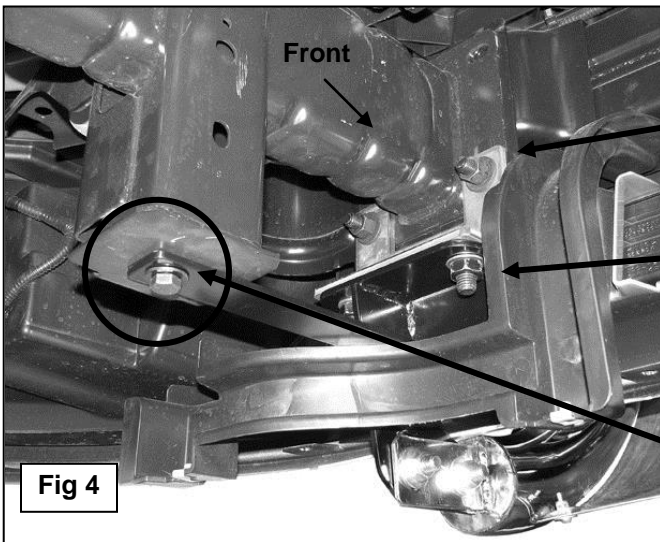

Fig 4
- Select (1) Upper Frame Bracket, (will fit left or right-without tow hooks only), and the driver side Mounting Bracket, **(Figure 3)**. Bolt the two Brackets together with (2) 12mm Flat Washers, (2) 12mm Lock Washers and (2) 12mm Hex Nuts, **(Figure 4)**. Do not tighten at this time.
- Insert the assembled Mounting Bracket up from behind the bumper and align the holes in the Mounting Bracket with the bumper bolts. Attach the Bracket to the bumper bolts using the factory hex nuts and snug but do not tighten the hardware, **(Figure 4)**.
- e. Attach the flat end of the driver side Bracket to the frame with (1) 12-1.5mm x 30mm **Special Fine Thread** Hex Bolt, (1) 12mm Flat Washer and (1) 12mm Lock Washer, **(Figure 4)**. **IMPORTANT:** The hole in the bottom of the frame is **fine thread**. Only use the 12-1.5mm x 30mm Hex Bolt provided in the hardware kit. Snug but do not tighten all hardware at this time.